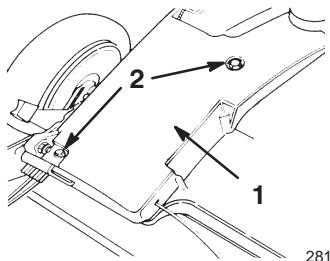

Figure 23
2. Remove the cover (Fig. 23).
2. Remove the bolts that secure the belt cover to the housing (Fig. 23).